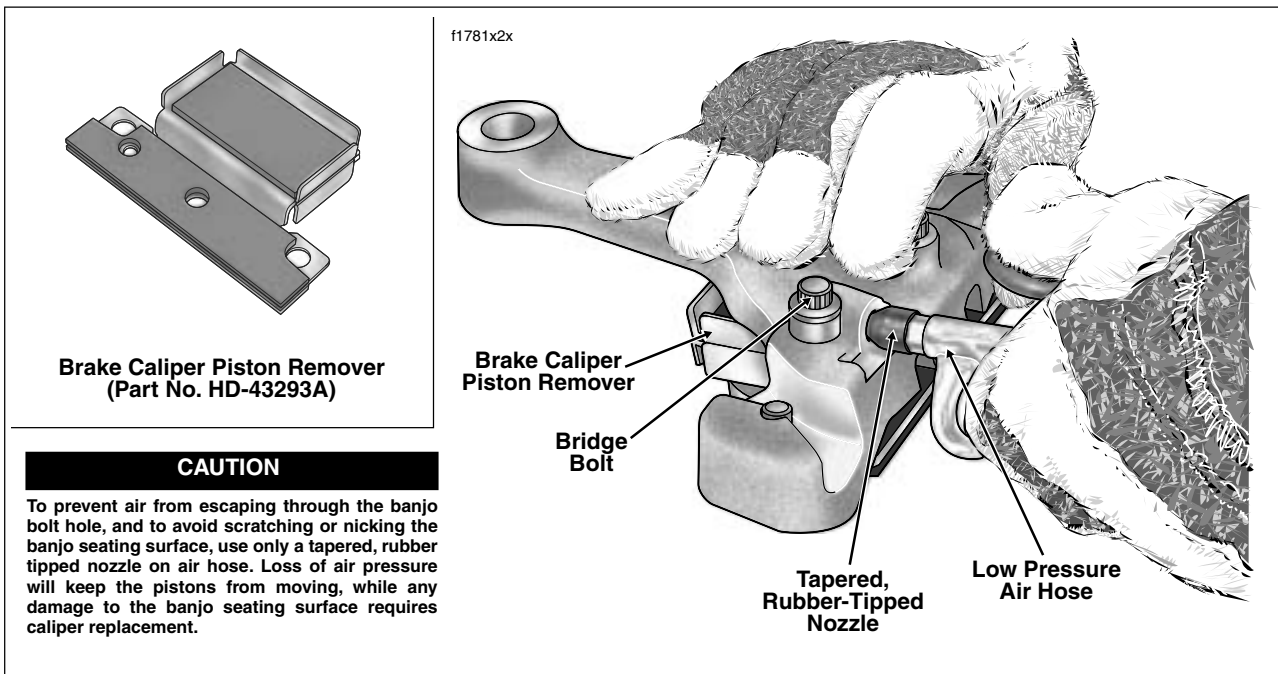

Figure 2-65. Direct Compressed Air Into Banjo Bolt Hole to Force Pistons From Bores
- a. Obtain BRAKE CALIPER PISTON REMOVER (Part No. HD-43293A). See inset of Figure 2-65.
- e. Using a tapered, rubber-tipped nozzle on the air hose (to prevent both loss of air pressure and damage to the banjo seating surface), apply low pressure compressed air into the banjo bolt hole to force pistons into contact with cushion of tool. See Figure 2-65.